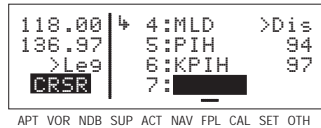

Figure 4-31
- The last waypoint in the flight plan is always displayed at the bottom of the FPL 0 page, even if all of the waypoints in the flight plan can't be displayed on the page at one time. To view intermediate waypoints, turn the cursor on and use the right outer knob to manually scroll through all of the waypoints, as desired. If scrolling is performed all the way to the end of the flight plan, a blank waypoint position will exist so that a waypoint may be added to the end of the flight plan (figure 4-31).